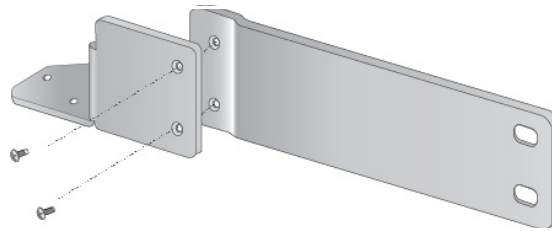

Figure 24. Attaching the Extension to the Bracket
2. Attach the extension to the bracket with the M4x6mm screws using a Phillips-head screw driver as shown in See Figure 24.